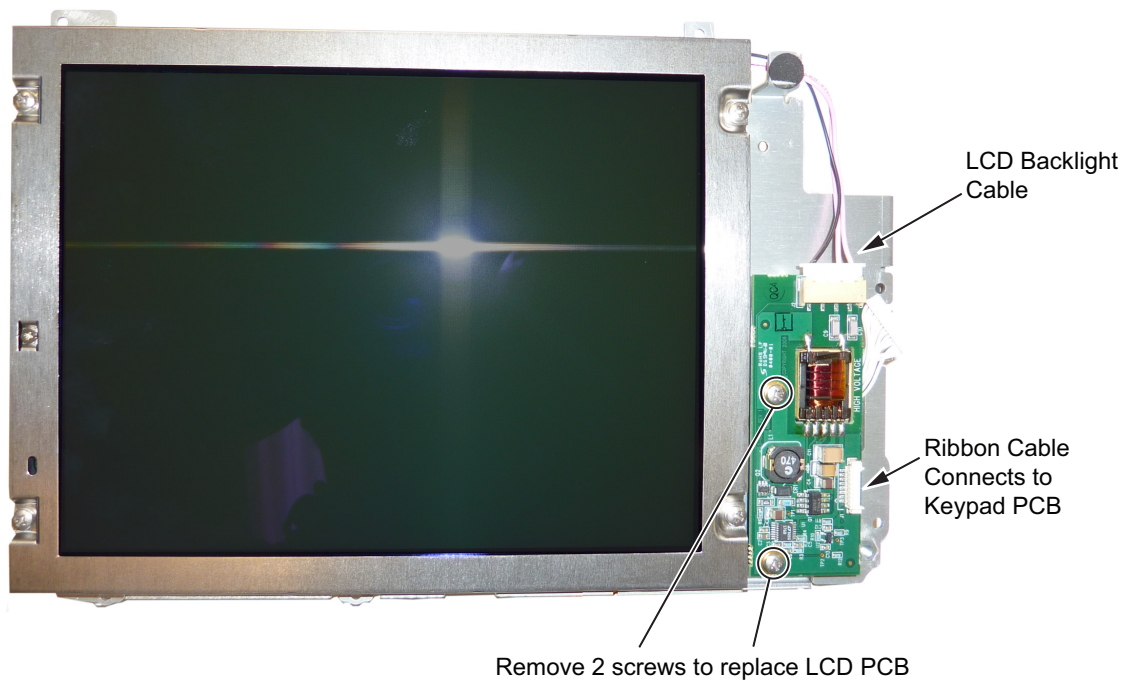

Figure 6-14. Replacing the LCD PCB
5. Use a Phillips screwdriver to remove the two screws securing the LCD backlight PCB to the LCD bracket (Figure 6-14).